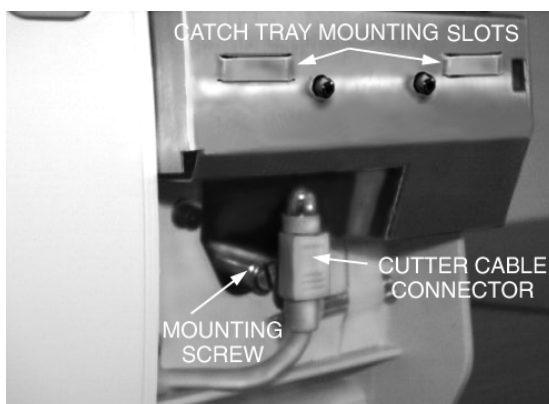

Figure 18 Cutter Connector and Mounting Screw
4. See Figure 18. Gently pull straight down on the Cutter Cable Connector to remove it from the mating socket on the Cutter Module.
2. See Figure 18. Tighten the Mounting Screw in a clockwise direction to hold the Cutter Module in Position.
3. See Figure 18. Position the Cutter Cable Connector so the flat side of the connector faces away from the printer, then insert it up into the mating connector on the Cutter Module.